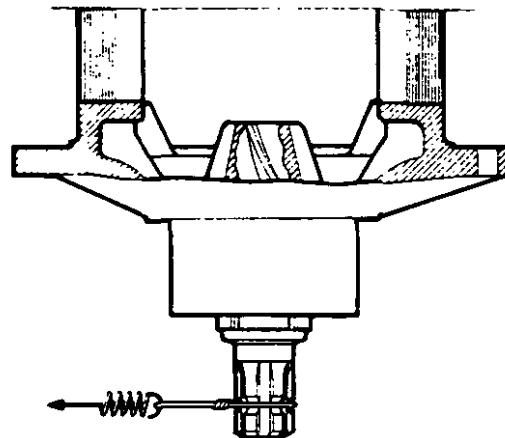

FIGURE 18 CHECKING PRE-LOAD
- 2 Put the other end of the string around the groove in the pinion shaft. Make two or three turns so that the string is tight on the shaft. See Figure 18.